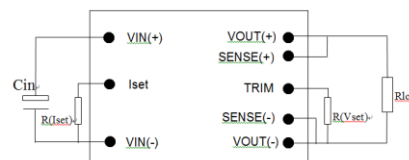

Figure 15
The output voltage can be programmed to any voltage between 0Vdc and 60Vdc by connecting one resistor, R(Vset), between the Vset(Trim) pin (9) and Vout- pin (7); See Figure 15. For a desired output voltage, the value of the resistor should be:
The maximum output current (effectively the current limit) can be reduced to any value between 0 and I_{max} by connecting one resistor, R(Iset), between the Iset pin (4) and Vin- pin (6); see Figure 15. The value of the resistor should be: